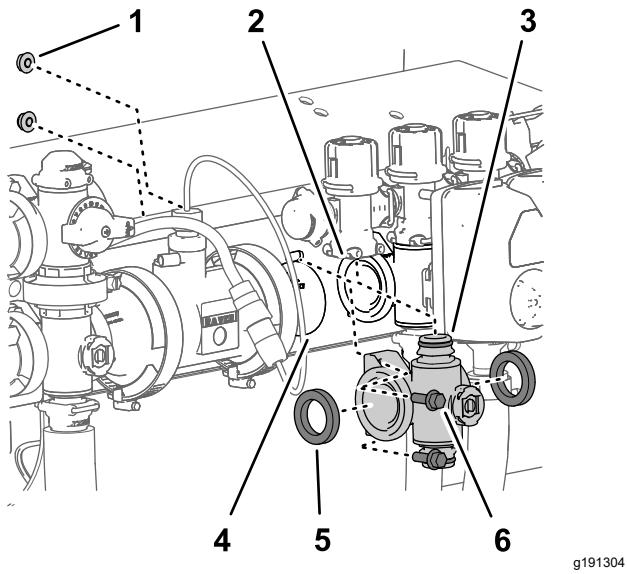

Figure 117
4. For left or right section-valve manifolds, remove the 2 flange-head bolts (1/4 x 3/4 inch) and 2 flange locknuts (1/4 inch) that secure the section-valve manifold to the valve support (Figure 117).
5. Move the section-valve manifold and gaskets down to clear the section-bypass valve and then away from the machine (Figure 117).